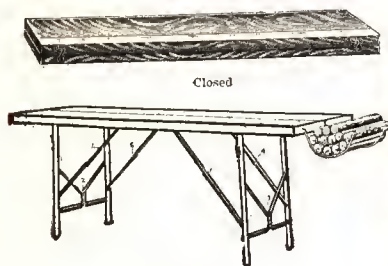

FIG. 19
**Folding Paste Tables:** There are many varieties of folding paste tables. These tables are made of wood. The most popular type are made of half-inch thick material and of three strips, ten inches wide by six feet long. These are placed upon folding trestles. (See Fig. 19.) They are light in weight and easily handled and one principal advantage that they have is that the cutting edge can be changed twelve times because of each strip having four cutting edges. Another type of table is called the folding paste table, built somewhat on the plan of the folding table used by the housewife for sewing. The legs when not in use, fold under the table. The supports for both of these tables are so adjusted that when necessary, an additional strip of wood may be added when using extra wide papers.